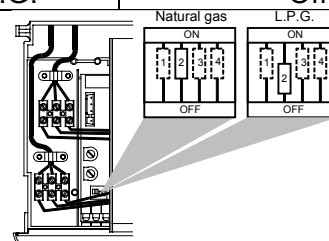

Figure 9.5
- 13) Set correctly the dip-switch "2" to the correct position (Fig. 9.5) in accordance with the following table.